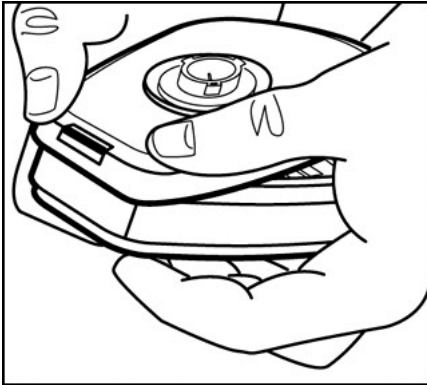

Fig. 4
1. Align adapter over cartridge. Engage front snap by squeezing front of cartridge and adapter together, placing thumbs of both hands over top of adapter and fingers along bottom sides of cartridge. (Fig. 4)